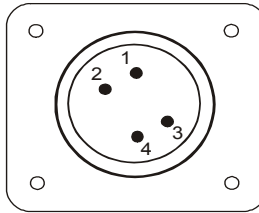

Figure 49. J11 Connections
8. Connect the replacement J11 connector to the chassis. The black and white leads from the blower motor have pins installed; these pins must be inserted into the back of J11 as indicated in Figure 49.